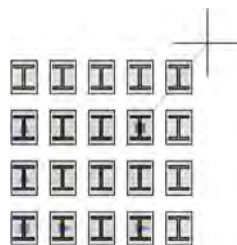

FIGURE 8.14
- Step 4.** You have now successfully created the basic rectangular array. You still need to define the exact number of rows and columns, however, as well as the distance between them, as this current array is rather arbitrary. You can do this via the command line, dynamically (using grips), or via the Ribbon. Figure 8.14 shows how you can pull the items diagonally in a dynamic fashion using the center grip. You can also do this via the outer arrow grips. This dynamic method is not really appropriate for setting distances between the columns, which are random values for now, but it does make creating the pattern very easy.